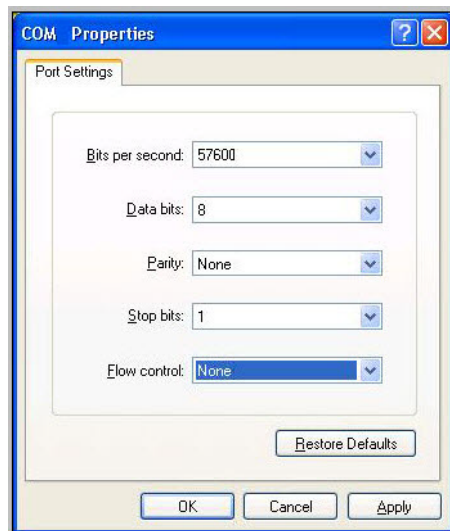

Figure 6-7 • Setting the COM Properties
6. Set the following in the COM Properties window and click **OK** (Figure 6-7):